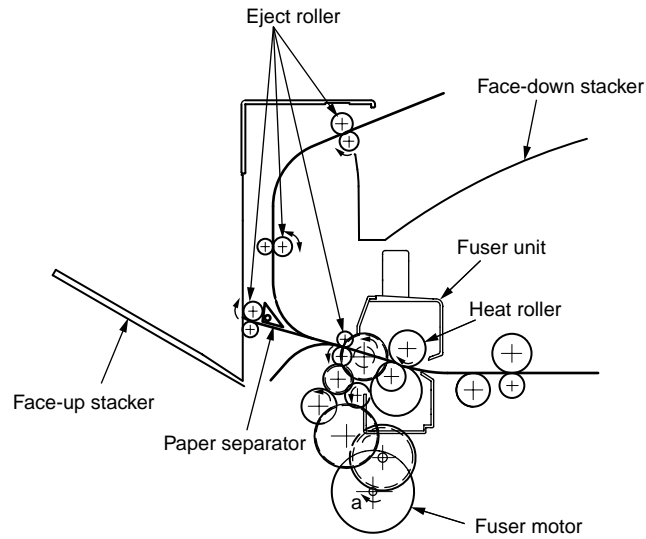

Figure 2-8
1. As illustrated in Figure 2-8, the fuser unit and the eject roller are driven by the DC motor. As the fuser motor rotates (counterclockwise), the heat roller rotates. This roller fixes toner images by heat and pressure.